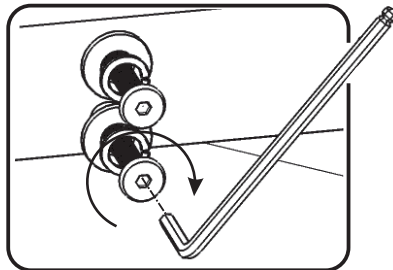

Figure 2
Attach Feet (L) to Bottom (B) with Flat Washers, Spring Washers and Head Cap Bolts (long). (See Figure 2)